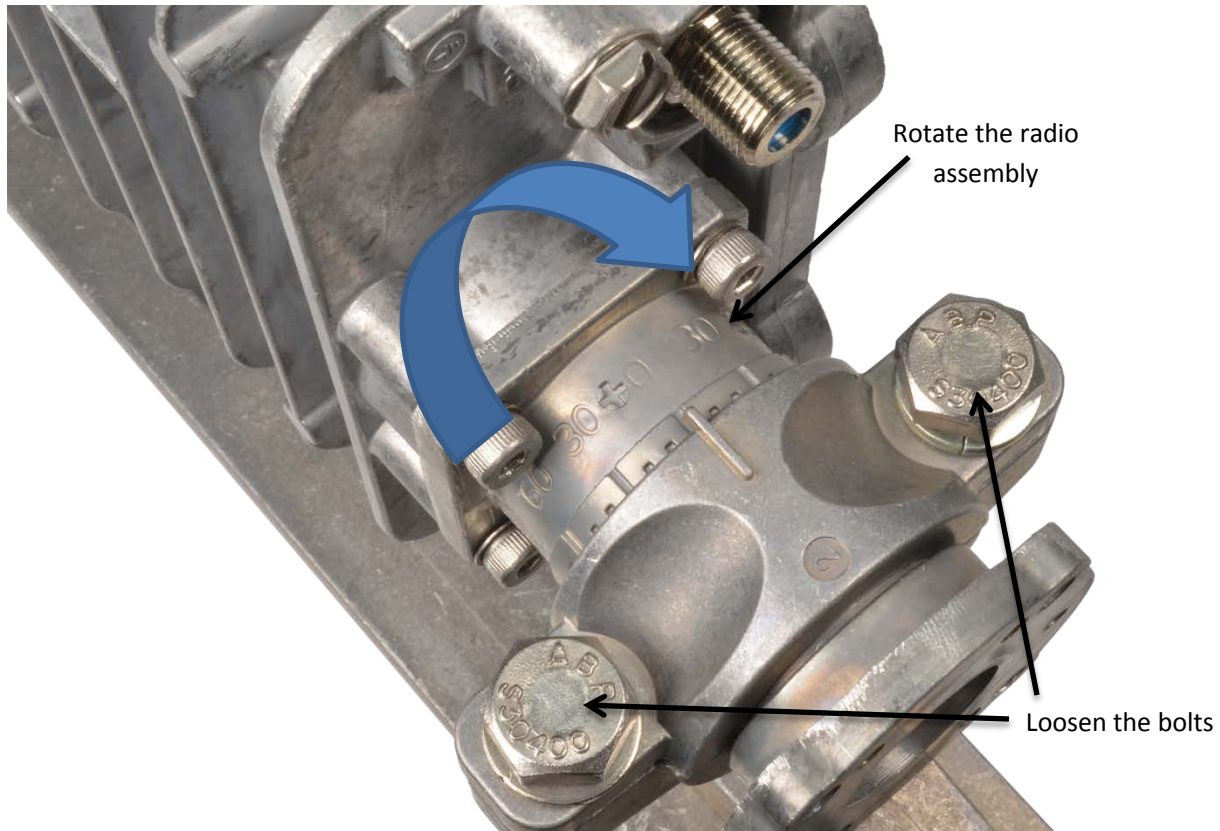

Figure 7: Rotate the radio assembly
4. On the radio assembly, loosen the two bolts at the top of the circular bracket (Figure 7 on page 17).
5. Rotate the radio assembly as shown in Figure 7 on page 17.